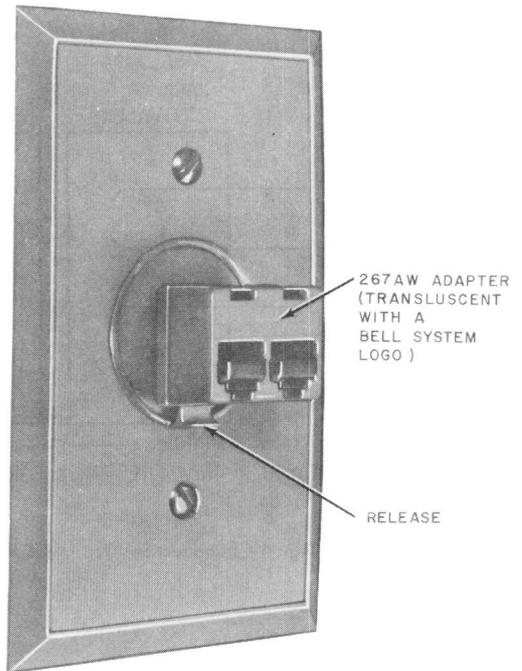

Fig. 2—267AW Adapter Mounted on 625-Type Connecting Block
2.02 USOC RJA2X: Uses a 267AW (Fig. 2) adapter to connect two modular jacks to one modular plug. Four leads are multipled to the same contacts in the plug and both jacks (Fig. 5). Tip and ring are always connected through to the multiple jacks. A and A1 or other leads will appear in the multiple jacks if wired into the existing jack. Leads 1 and 6 are multipled between the two jack ports only and are reserved for Telco use.